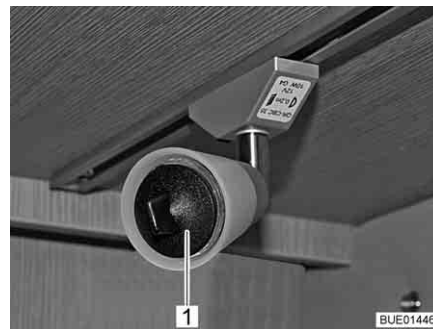

Fig. 229 Suction cup for replacing the lamp
- ▷ A suction cup (Fig. 229,1) is included to help with changing the lamp.